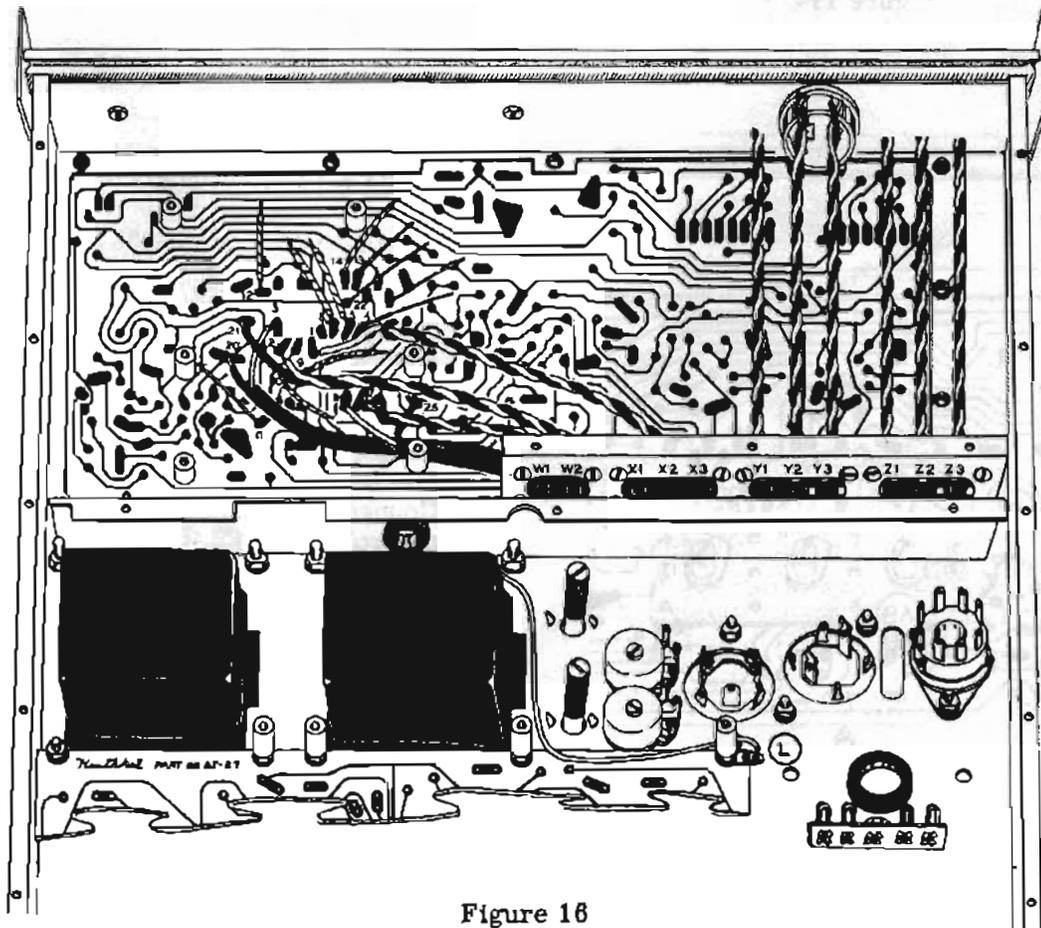

Figure 16
Refer to Figure 16.
- () Identify the twisted pair from phono socket X2. (See Figure 16) At the free end, connect the black wire to hole 21 (S-1) and the yellow wire to hole 2 (S-1) on the large circuit board.
- () Install .698" threaded spacers (#255-47) on the three transformer studs and the screw stud holding the solder lug, as shown in Figure 16. Do not remove nuts. Tighten spacers with pliers.